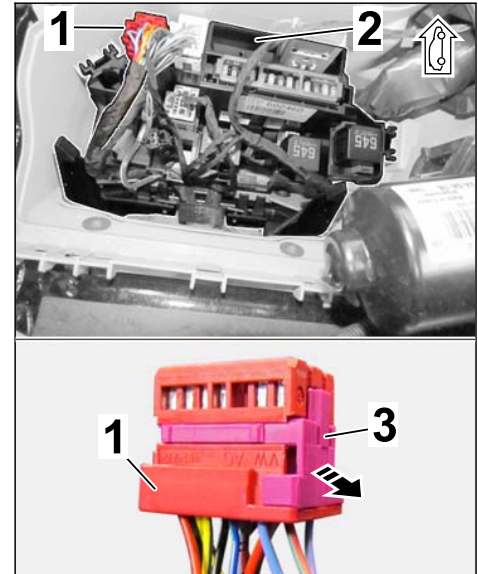

Figure 44
3.5.1 Remove and release connector (17-pin, red) from fuse/relay carrier (E-box, connection point X371.1A1) (⇒ Figure 44).